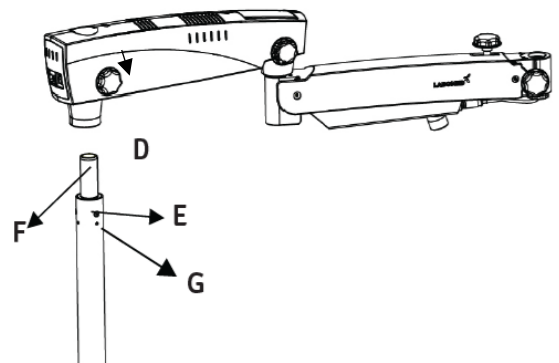

Fig. 30
7. Take out the Arm Assembly from the same box and follow the Instructions below: (Refer Fig. 30)
- a. Ensure that the swivel arm lock knob (D) is slightly loosened.
- b. Mount the Arm Assembly into Shaft (F).
- c. Align three holes (E) with tapped hole on Shaft (F).
- d. Use Allen Wrench 4mm and tighten 2 M6x16mm Allen screws (G).